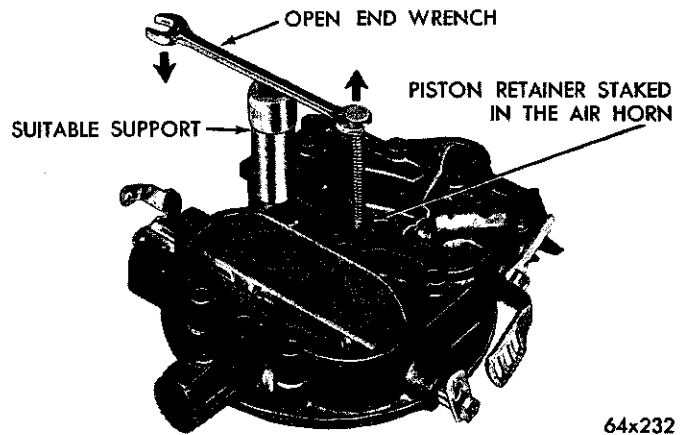

Fig. 5—Removing the Vacuum Power Piston
(10) Remove the vacuum power piston from the air horn, using an open end wrench and wood block, as shown in Figure 5. (Exert sufficient pressure on end of wrench to force piston out of its well in air horn. This assembly is staked in the air horn and care should be used at removal.) Discard air horn gasket.
(11) Test the freeness of the choke mechanism in